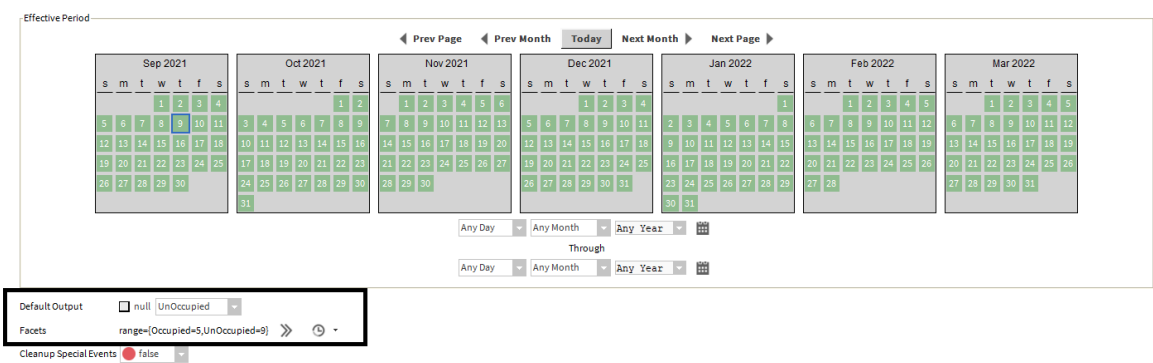

Figure 12 – EXAMPLE EVENT SCHEDULE.
7. Open Schedule and click to the Properties Tab (see Figure 12). Click on the >> Chevron beside the Facets / range. On the new window click on the 3 dots ... and on the new popup